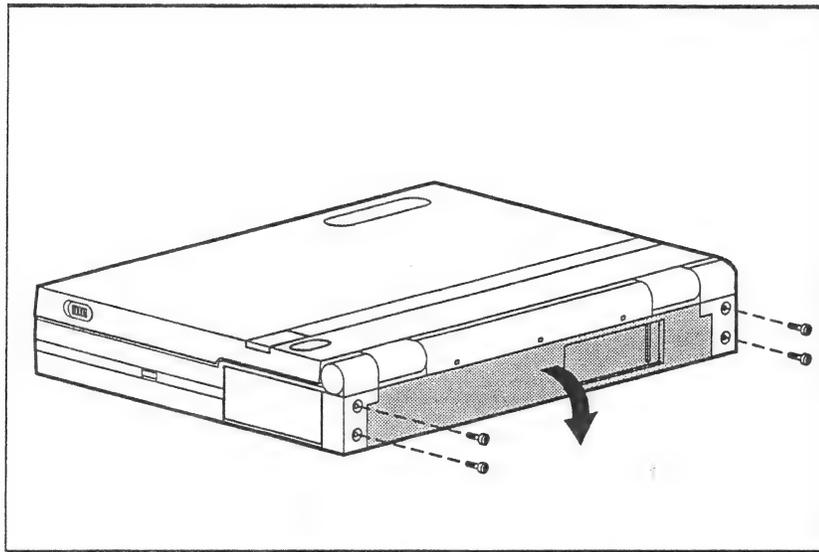

Figure 2-11. Removing the Rear Connector Panel
4. Using a Torx T-8 screwdriver, remove the four screws that secure the display clutches (Figure 2-11).